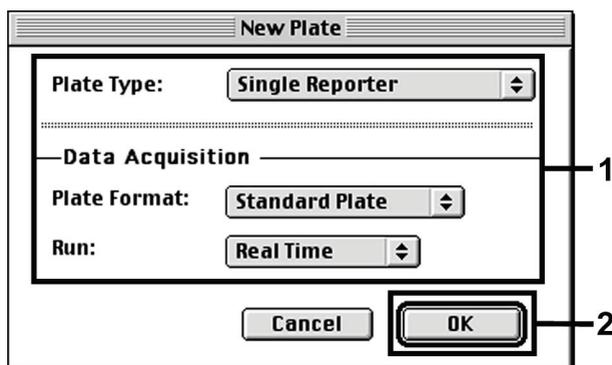

Fig. 9: Pre-settings for creating a new PCR run (New Plate).
Select the item *New Plate* from the *File* menu on the *ABI PRISM 7700 SDS* and program the following initial settings for the new document (see Fig. 9). Confirm the pre-settings (OK).